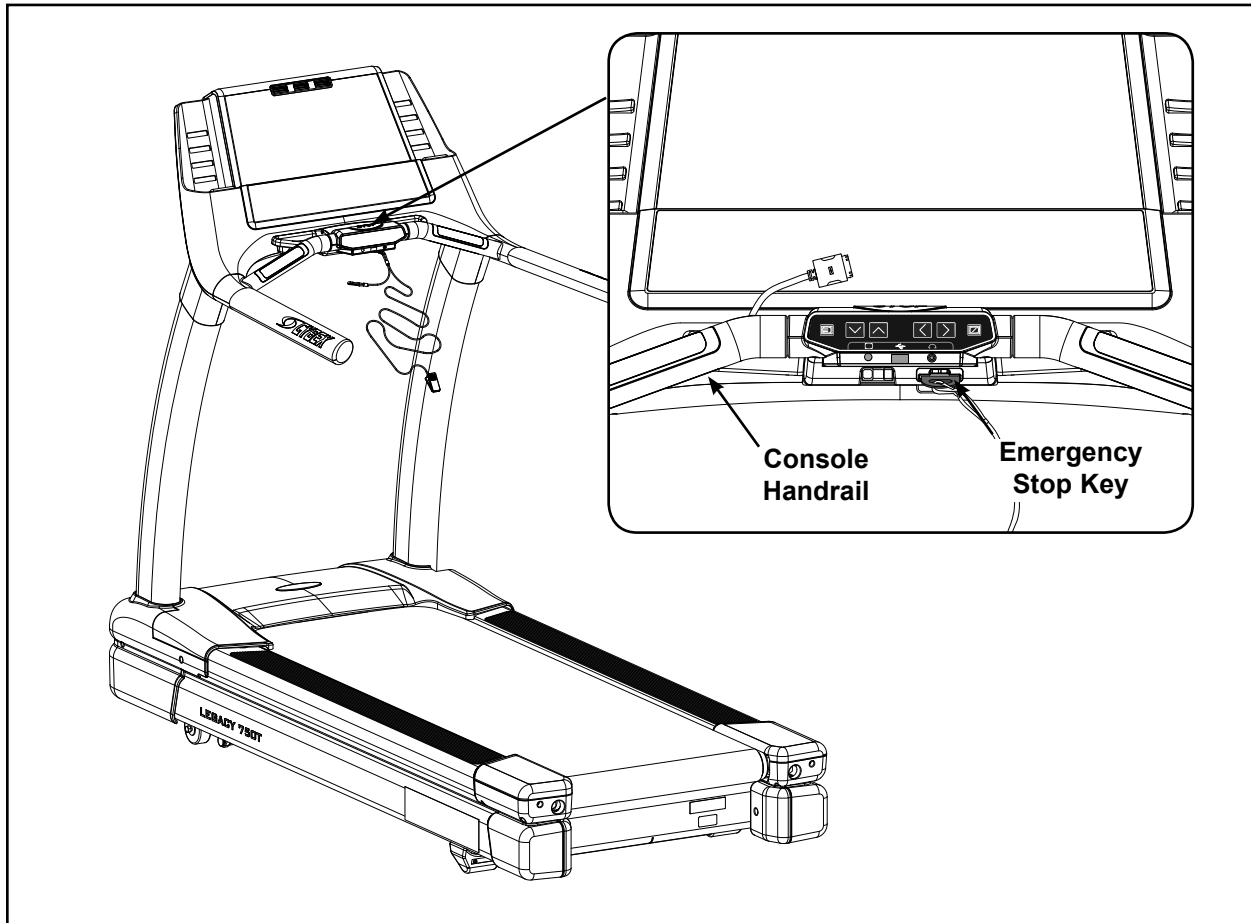

Figure 12
- A.** Confirm that the emergency stop key is in place in the bottom of the console handrail. See Figure 12. **NOTE:** *The treadmill will not run without the key in place.*